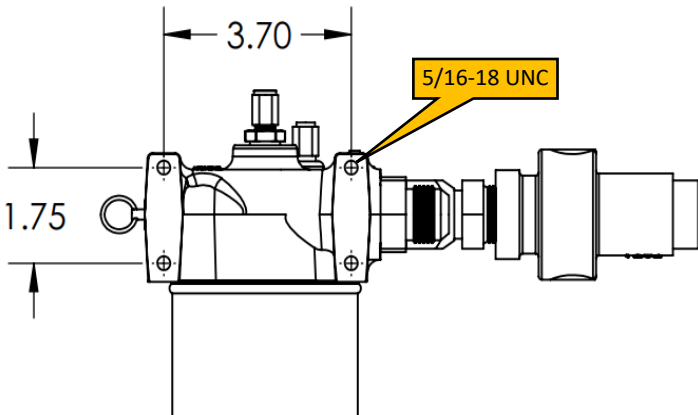

Figure 6 - Coalescer Mounting Dimensions
- Mount the coalescer using the mount pattern shown in Figure 6. The assembly should be mounted vertically (as pictured) $\pm 20^\circ$. Mounting bolts are 5/16–18 UNC thread.